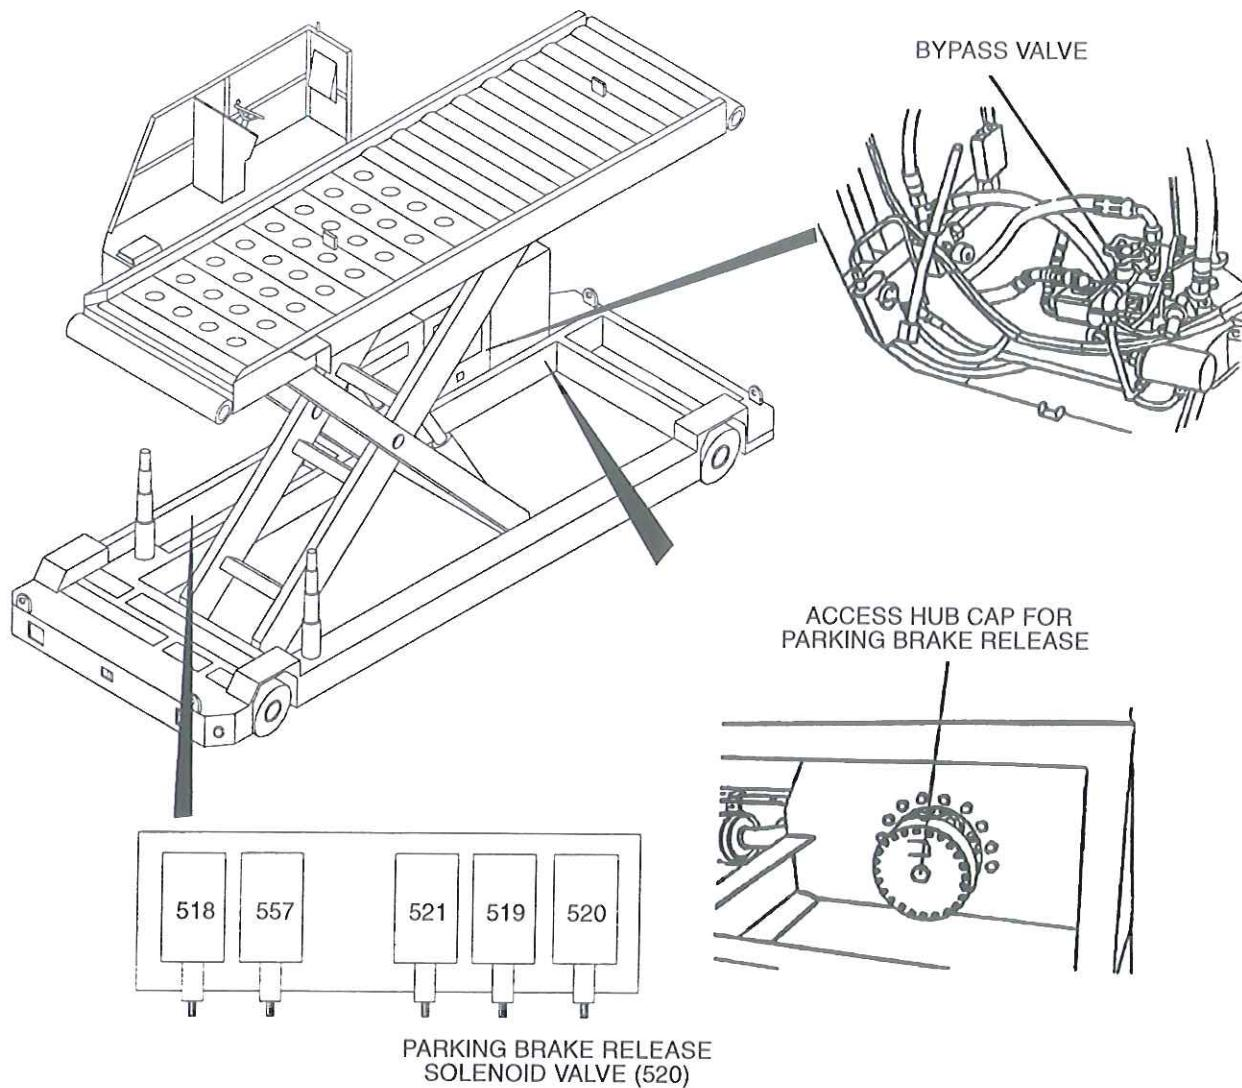

Figure 3
3. RELEASING THE PARKING BRAKE (FIGURE 3)